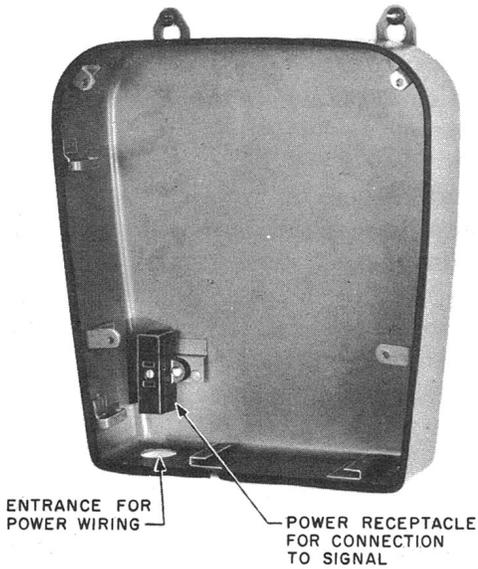

Fig. 1 - KS-16301, List 9 Back Box, Indoor Single Potential
3.05 Where a single potential signal is involved, the back box should be installed so that the customer may have the commercial power connected (see Fig. 1). Install signal after power connection has been made.